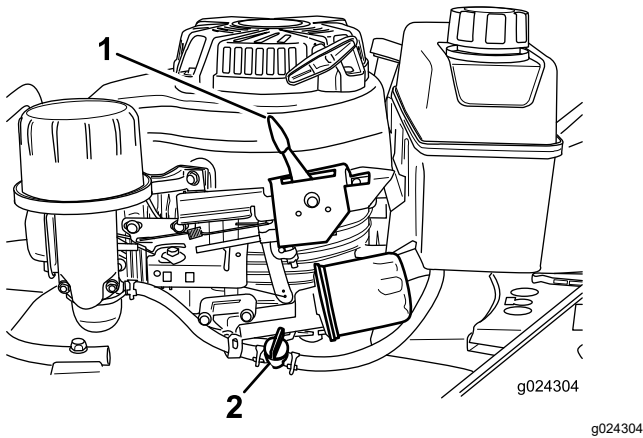

Figure 12
2. Open the fuel valve (Figure 12).
3. Move the throttle-control lever (Figure 12) to the Choke position.
Release the blade-control bar and move the throttle-control lever (Figure 12) to the Stop position.
Note: Close the fuel valve (Figure 12) if you will not be starting the engine soon afterward.